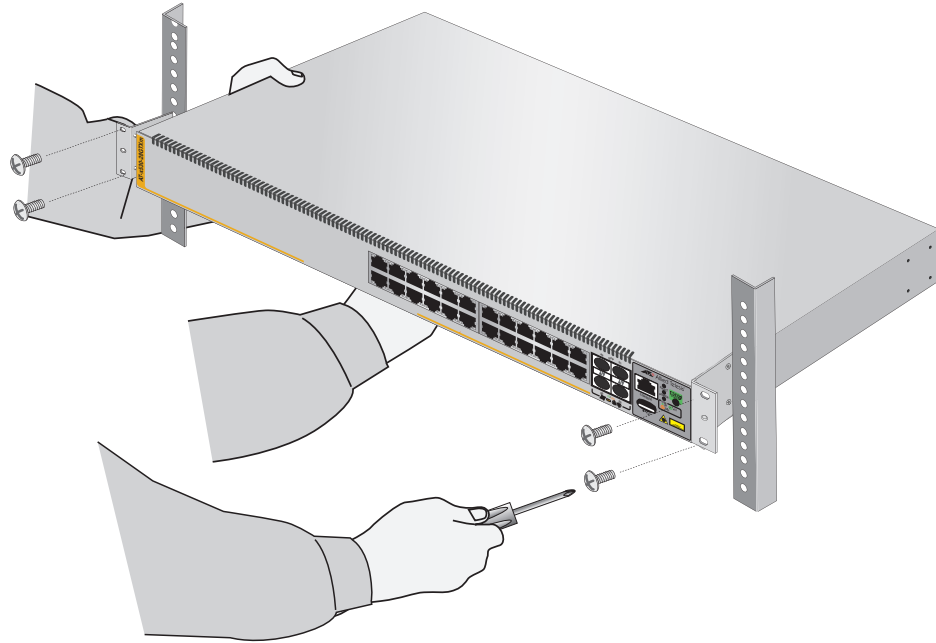

Figure 67. Installing the Switch in an Equipment Rack
3. Have another person hold the switch at the desired location in the equipment rack while you secure it using four standard equipment rack screws (not provided). Refer to Figure 67.